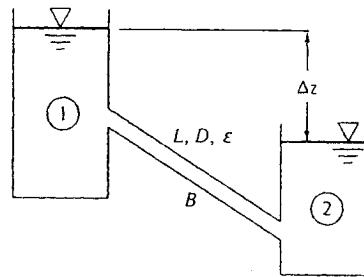

Fig. P6.55
**6.83** For the system of Fig. P6.55, let  $\Delta z = 80$  m and  $L = 185$  m of cast-iron pipe. What is the pipe diameter for which the flow rate will be  $7 \text{ m}^3/\text{h}$ ?